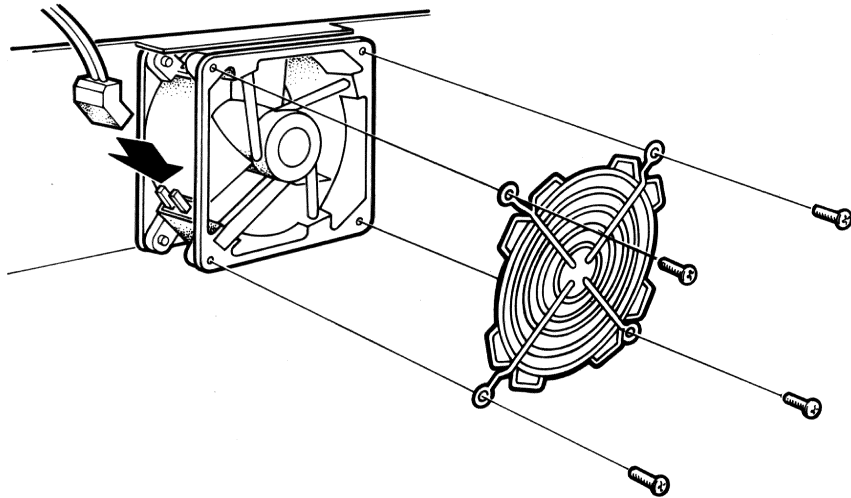

Figure 6-24 Connect Front Fan
1. If present, remove the power cable and fan guard from the intake side of the old fan and fit them to the replacement fan. (Figure 6-24)
2. The front fan power cable is not keyed. Observe the polarity of the connector. The curve of the connector must match the curve of the fan housing as shown in Figure 6-24.